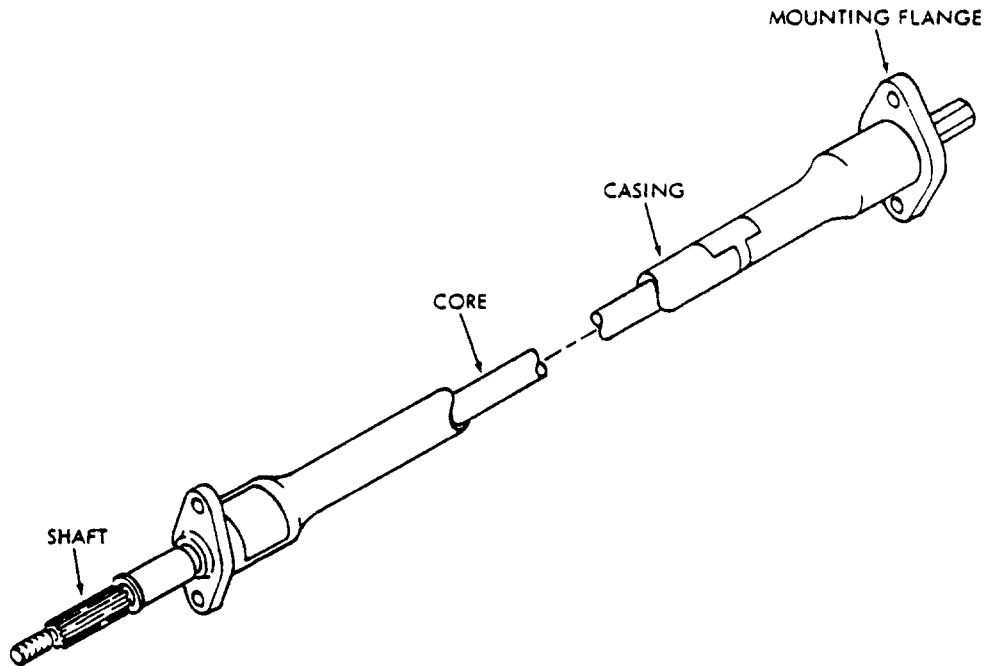

Figure 1 - Flexible Shaft Assembly
1. Description. The flexible drive shaft assembly consists of a casing (inner and outer) which is stationary and surrounds the core, which is the moveable portion of the assembly (see Figure 1). The outer casing is constructed of wire braid with a 2 over 2 basket weave incorporating a mounting flange on each end. The inner casing is lined with Teflon and impregnated with five percent graphite. The core is constructed of music wire with one end having a hexagonal drive while the other end has a 13 point spline drive. The hex end engages the spur gearbox on the pneumatic actuator and the splined end engages the pinion gearbox. The flex drive shaft can be used on either inboard or outboard position.